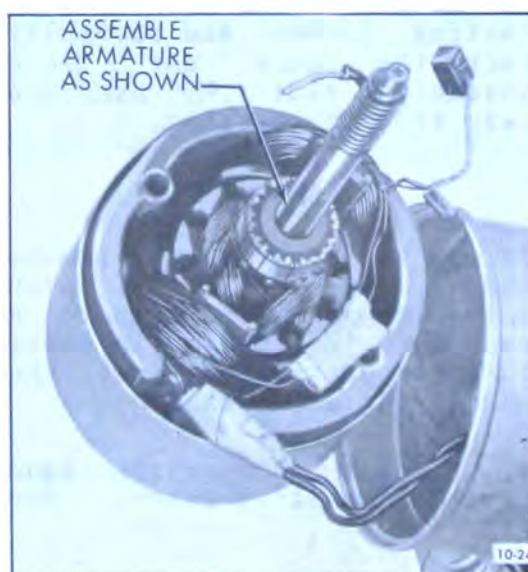

Figure 10-43 Assembling Armature
4. Assemble armature in the case and field assembly. See Figure 10-43.